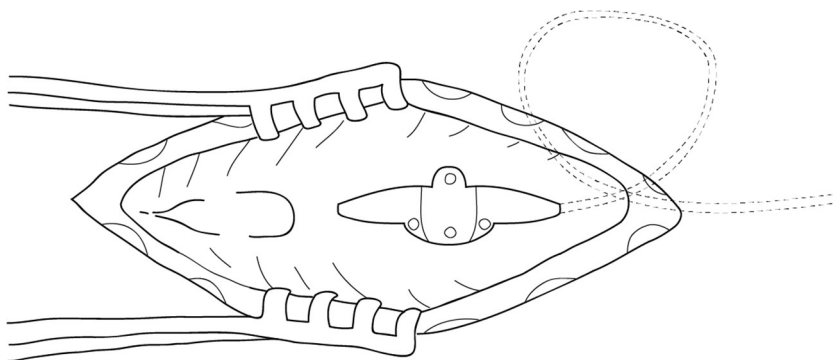

Figure 5.8: Small subcutaneous pocket for the strain relief loop and lead extension if used.
3. Create a loop in the lead and insert into the small pocket (refer to Figure 5.8).